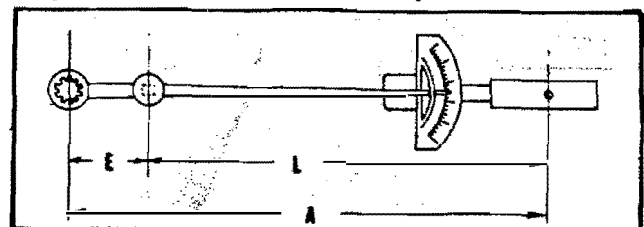

Figure 7-88A. Torque Wrench And Adapter
- E = Effective length of special extension or adapter (See Figure 7-88A).